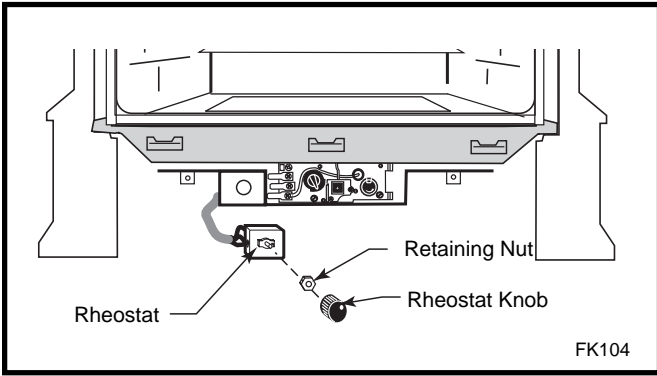

Fig. 14 Attach rheostat to bracket.
4. The rheostat control switch attaches to the left side of the valve bracket at the front of the stove. (Fig. 14)